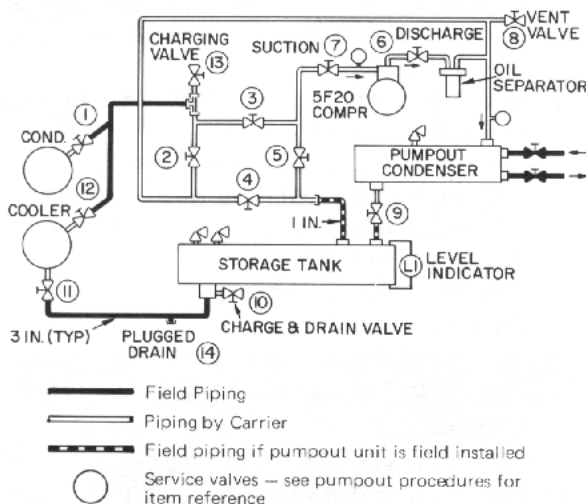

Fig. 11 — Pumpout Unit Piping, 5F Unit with Vent Valve and Charging Connection
Pumpout Procedures, Later Model 5F Units (Fig. 11). — The 5F units equipped with vent valve (8) and charging valve (13) use a factory-installed hand-off-auto. switch for pumpout control. The "HAND" position allows pumpout compressor operation at the low pressures required for machine evacuation and air removal by electrically bypassing the low-refrigerant pressure safety switch.